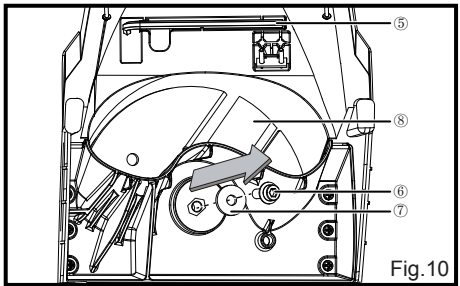

Fig.10
- Take out the Allen key ( ⑤ ) from the recess in the housing inside the shredder. Use the Allen key to loosen the Allen bolt ( ⑥ ) anticlockwise in the center of the blade plate. Remove the Allen bolt and the washer ( ⑦ ). Remove the blade ( ⑧ ) from its seat (Fig. 10).